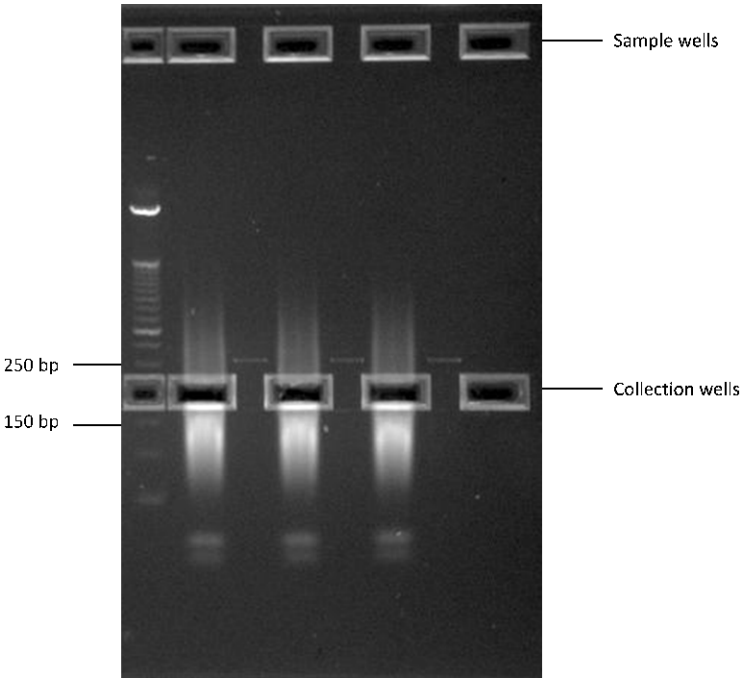

Figure 3 Elution of an approximately 200 bp region from SOLiD Library Size Selection gel. This image shows three samples on the same gel.
- 5 When the 200-bp band from the marker lane is in the center of the collection well, stop the run if the run has not already stopped (see Figure 3).